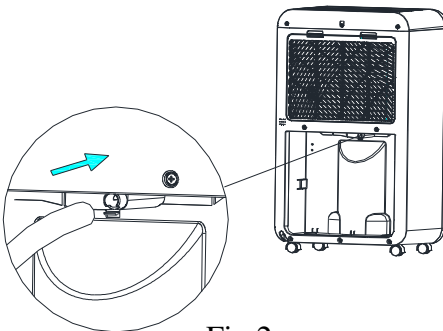

Fig.2
2. Connect a hose with inner diameter 11.5mm to drainage hole. Fig.2